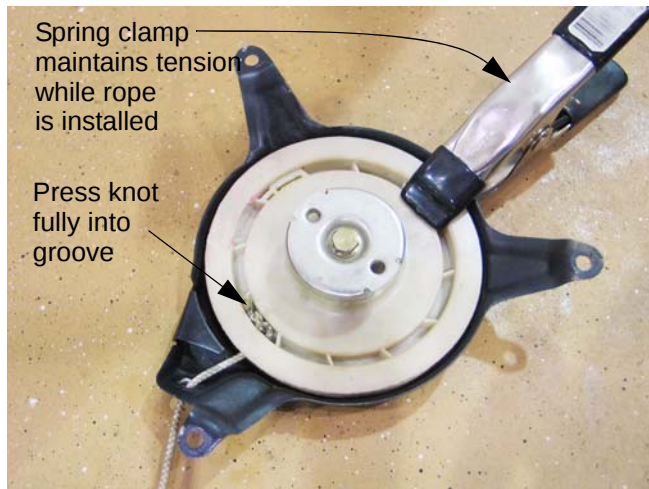

Figure 6.23
- 6.23. The rope may be easily installed from the inside-out. Pull the rope tight to seat the knot firmly in the recess in the back of the pulley. See Figure 6.23.